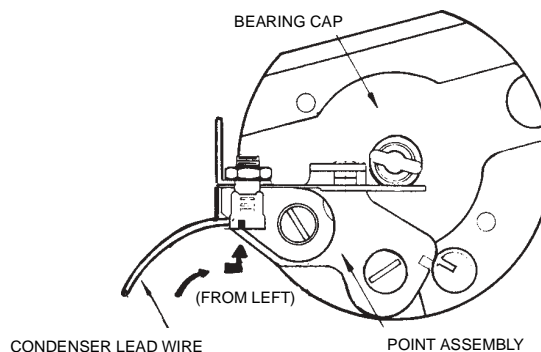

Figure 7.16
- B. Attach the terminal with the lead pointing left. (See Figure 7.16.)